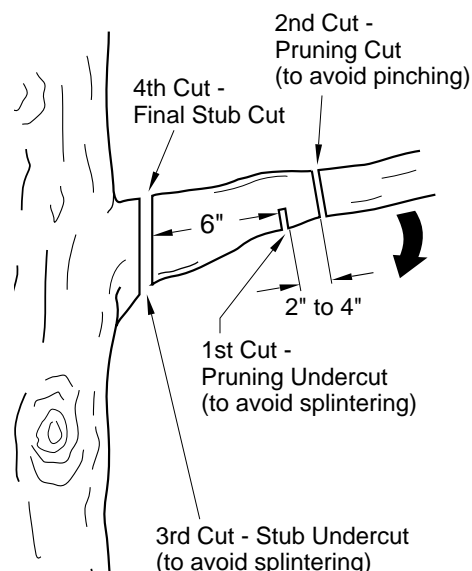

Figure 11 - Cutting A Limb
- Make first cut six inches from tree trunk on underside of limb. Use top of guide bar to make this cut. (Cut 1/3 through diameter of limb, see figure 11).